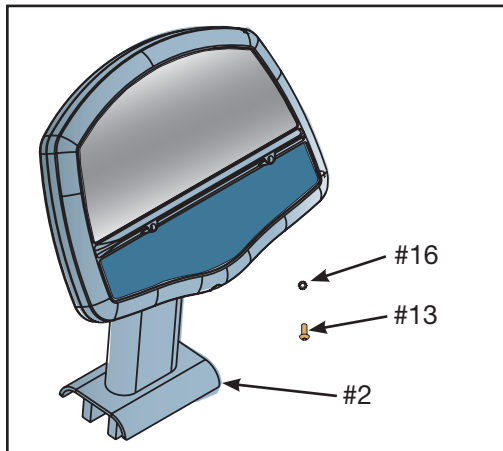

Figure 3
- A. Locate the console assembly (#2), four screws .375-16 x 1.50 (#13) and four washers (#16). See Figure 3.